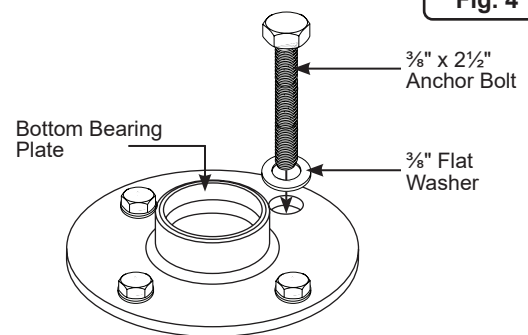

Fig. 4
5. Place the bottom bearing plate back over the anchor holes and anchor it with four (4) $\frac{3}{8}$ " x $2\frac{1}{2}$ " anchor bolts and flat washers (Figure 4).